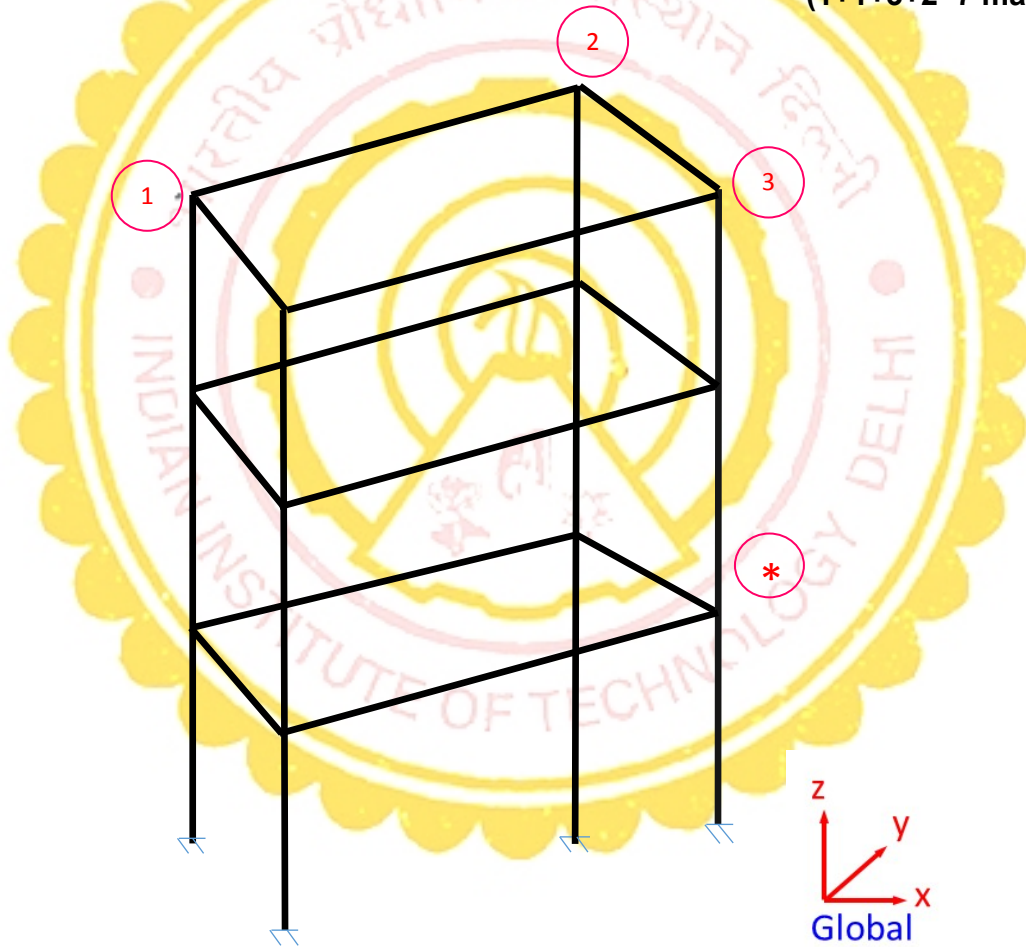

Figure 2
**Q4.** Figure 2 shows a three storeyed space frame structure (plan dimensions 4x12 m) with floor slabs to be analysed using direct stiffness method. All beams and columns have identical cross-sections. The user has given hint on joint numbering sequence (All floor/ joint numbering should commence from top). For this structure, answer the following points: